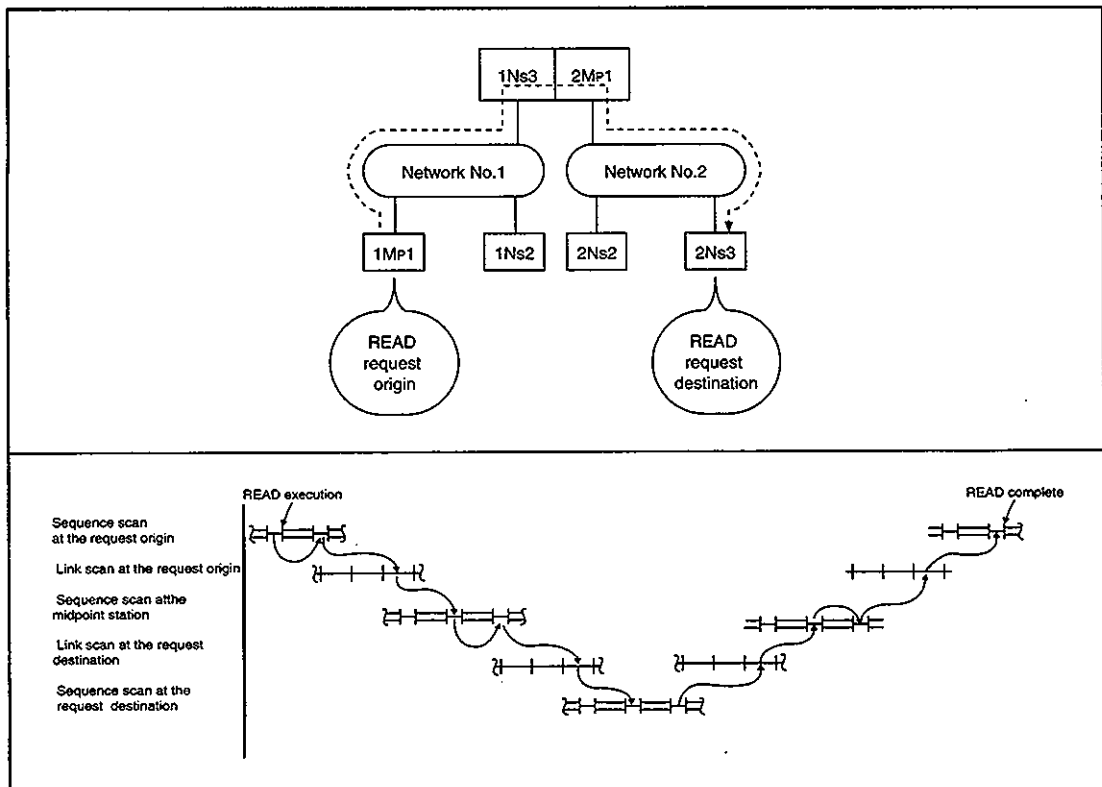

Figure 6.2 Routing transmission delay
This is the transmission delay time from the request origin (station which executed the instruction) to the midpoint station to perform the routing. In the example shown in Figure 6.2, this is the time to send data from the 1Mp1 station to 1Ns3 station. Calculate the value using the formula for the double layer system transmission delay time shown in Section 6.1.2 (1) (b).
This is the transmission delay time from the midpoint station to request destination (station to be accessed by instruction). In the example in Figure 6.2, this is the time to transmitted data from the 2Mp1 station to 2Ns3 station.